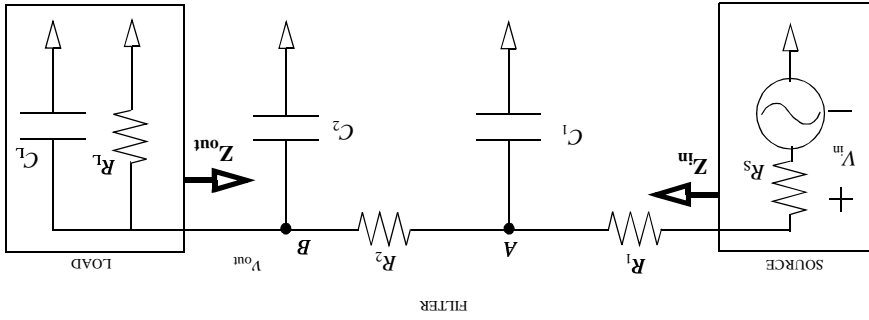

Figure 3 — A second-order RC low pass filter.
- The output impedance of the filter ( $Z_{out}$  in Figure 3 with input source grounded) should be sufficiently small compared to the input impedance of the load, which is 1M $\Omega$  and 100pF.
The simplest possible circuit for this filter design is shown in Figure 3.